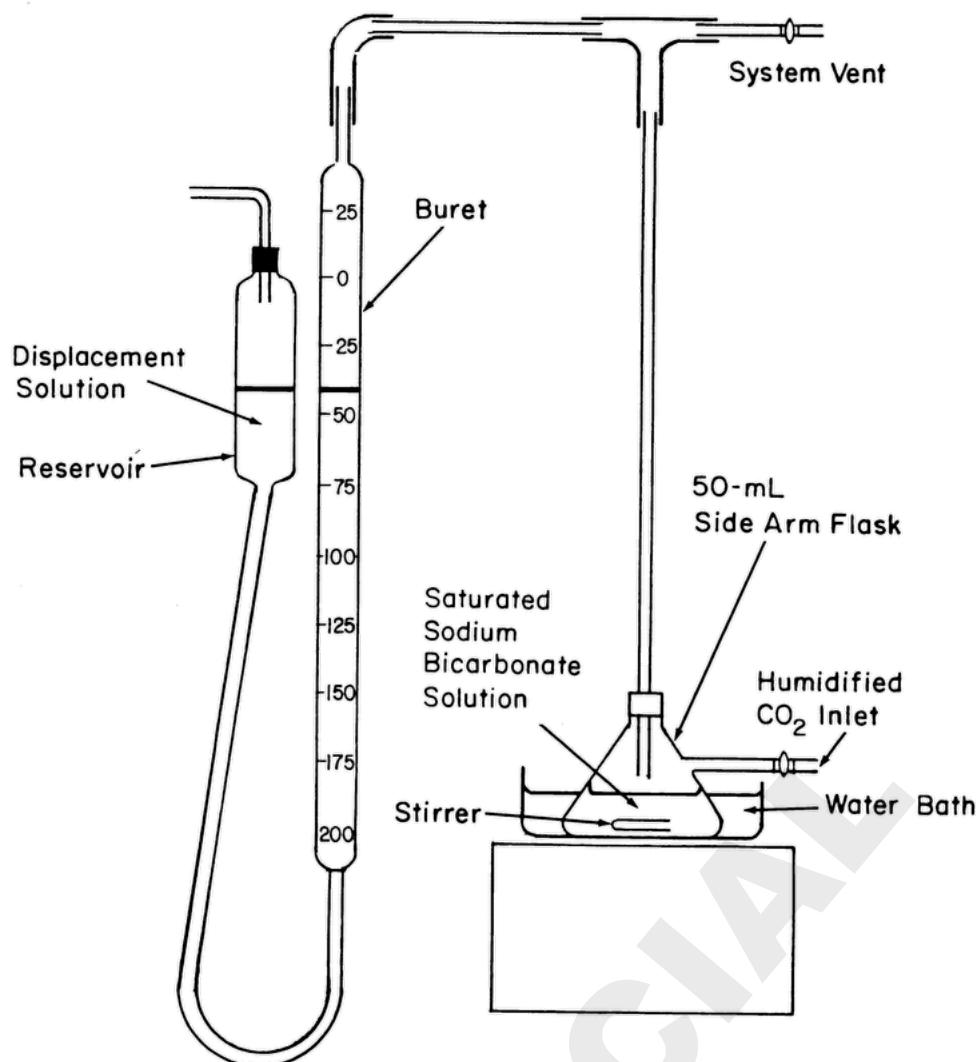

Figure 1. Carbonate apparatus.
**Apparatus:** The apparatus (see Figure 1) consists of a 50-mL flask with a side arm connected to a source of carbon dioxide humidified by bubbling through a saturated solution of sodium bicarbonate. The flask is equipped with a top-mounted stopper fitted with an exit tube. The